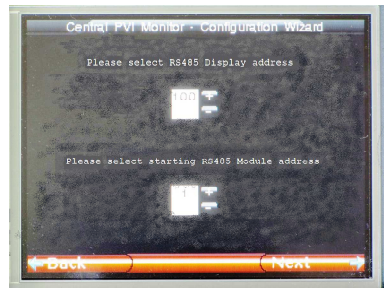

Figure 14-16: Address setting
- The following screen (Figure 14-16), allows both to set the RS485 address of the main display of the inverter, and of the 50kW MODULE address in the latter. In the first row it is possible to set the address of the main display from number 100 until number 163. In the second row it is possible to set the starting address of the 50kW MODULE, part of the inverter we are treating. All PVI-CENTRAL-XXX (US or CAN) inverters are provided with a main display default address equal to 100 and with a starting address on the 50KW MODULE equal to 1.